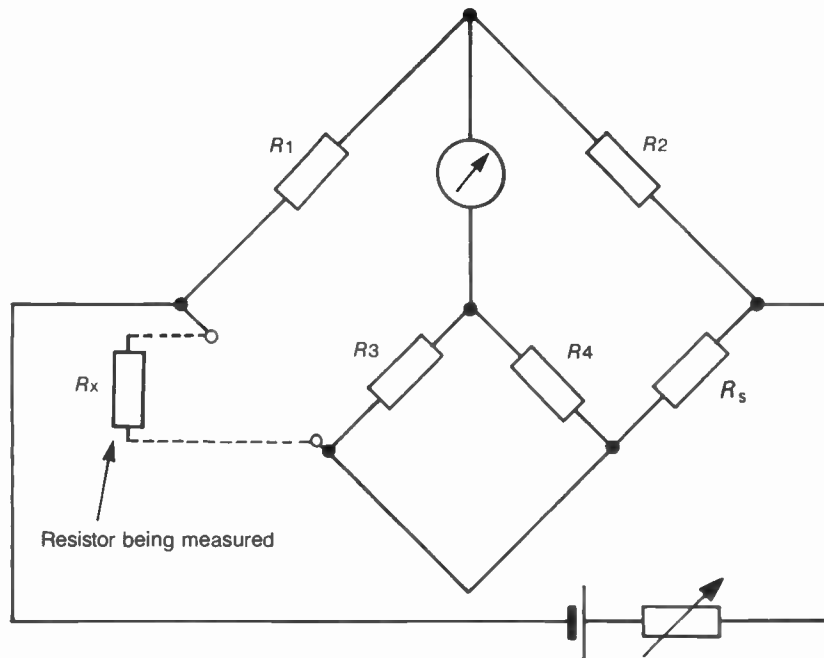

Fig. K1 The Kelvin Bridge
**KELVIN BRIDGE (KELVIN DOUBLE BRIDGE)** is used for the precise measurement of low value resistances in the range  $1\mu\Omega$  to about  $10\Omega$ . Its development arose because its forerunner, the Wheatstone Bridge is unreliable over this range because of switch and terminal contact resistances. In the Kelvin bridge arrangements are made to balance these out. The bridge is named after Lord Kelvin. Because it has six resistive arms, the usual circuit may not be immediately recognized as a bridge so here in Figure K1 it is modified so that the essential difference from the Wheatstone bridge